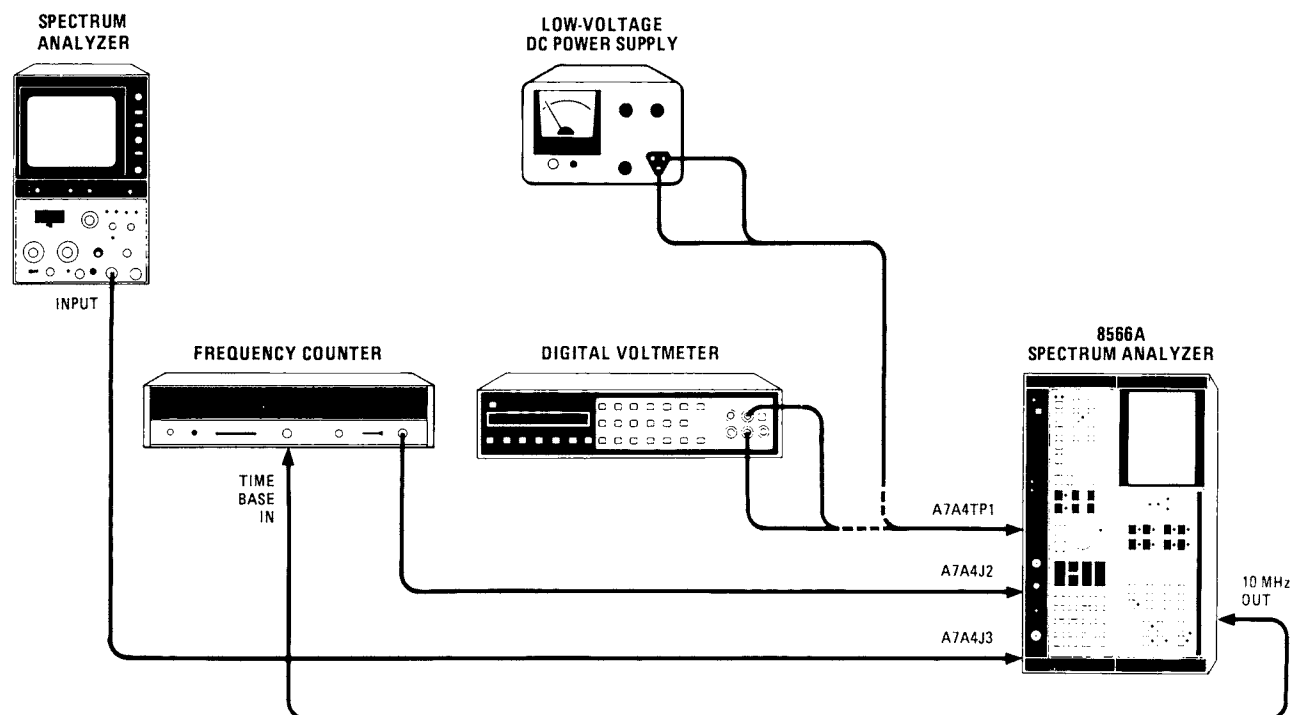

Figure 5-49. M/N Loop Adjustment Setup
1. Position instrument on right side as shown in Figure 5-49 with bottom cover removed.